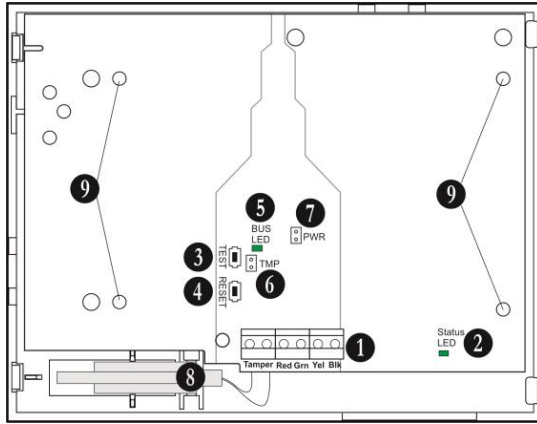

Figure 2. Eclipse WL mounted into small plastic box.
At the initial connection of Eclipse WL to the panel the Status LED (see pos. 2 of Figure 2) lights on permanently in red.